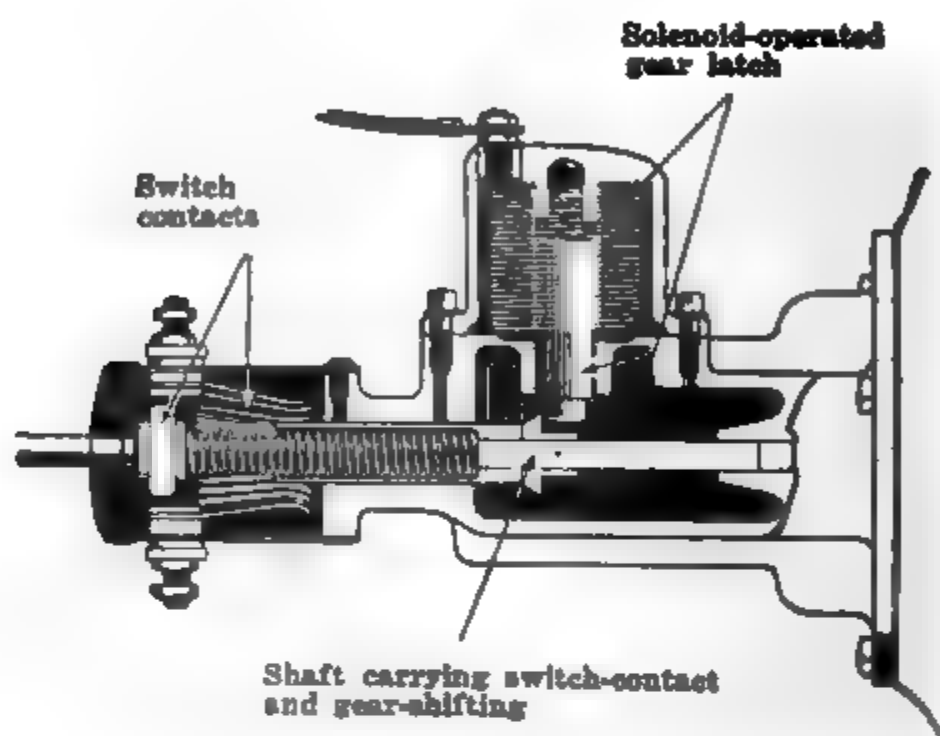

Fig. 222. Sectional View of Auto-Lite Starting Switch and Gear Release
**Starting Motor.** The starting motor is a series-wound multipolar type having four salient poles, Fig. 221 (used on Overland Model 80 and Model 81). In this type the switch is combined directly with the motor, being mounted in a housing at the left end as shown in Fig. 221. It is also fitted with a special locking device, the details of which are illustrated in the sectional view, Fig. 222. One of the buttons on the control board on the steering column closes the circuit of the solenoid shown in this illustration; this causes the plunger to lift and release what is known as the *gear-latch*. The shaft carrying the switch also serves to shift the pinion on the end of the starting-motor shaft into mesh with the flywheel gear. A later and more widely employed type of Auto-Lite starter